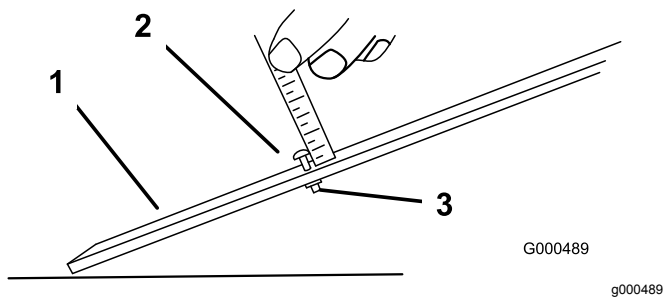

Figure 8
1. Loosen the nut on the gauge bar and set the adjusting bolt to the desired height of cut (Figure 8).